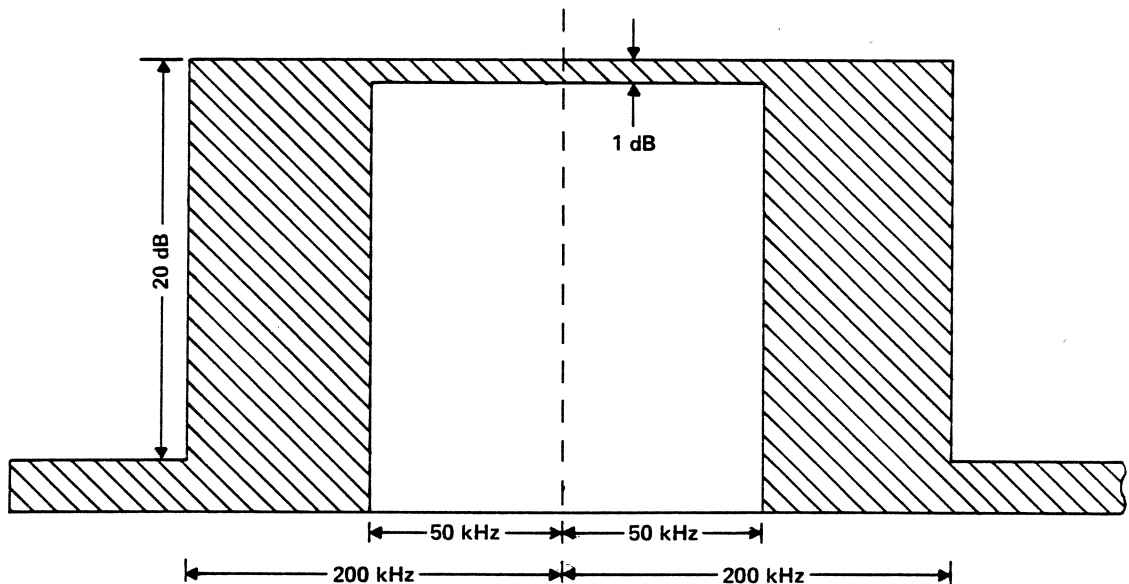

Figure 6-5. Passband Characteristics
10. Adjust the tracking generator of the spectrum analyzer for an output level to obtain a response on the analyzer. Adjust L1 and L2 for a peak response at 1.4 MHz. Ensure that the final shape conforms to the limits prescribed in Figure 6-5. (This is only for the -3 dB points).
12. Check the -20 dB points on Figure 6-5. Record on test data sheet.